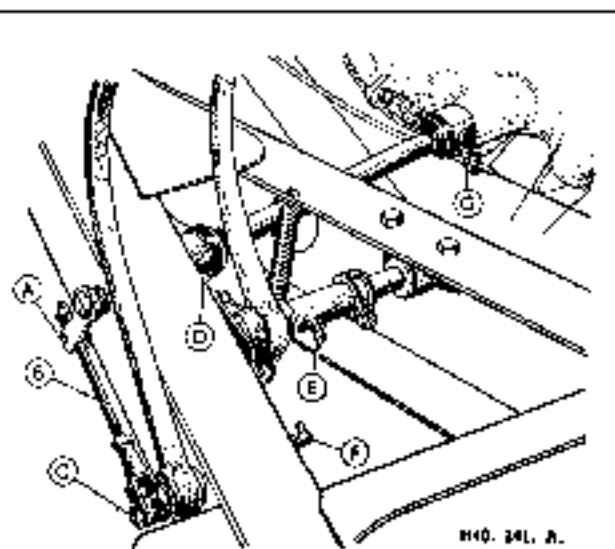

Fig. 4. The clutch pedal assembly, left-hand.
With a 73-in. (1841.5 cm.) clutch, select three spacing washers (2) and place them over the code letter (B) on the base plate. (See Fig. 4.)